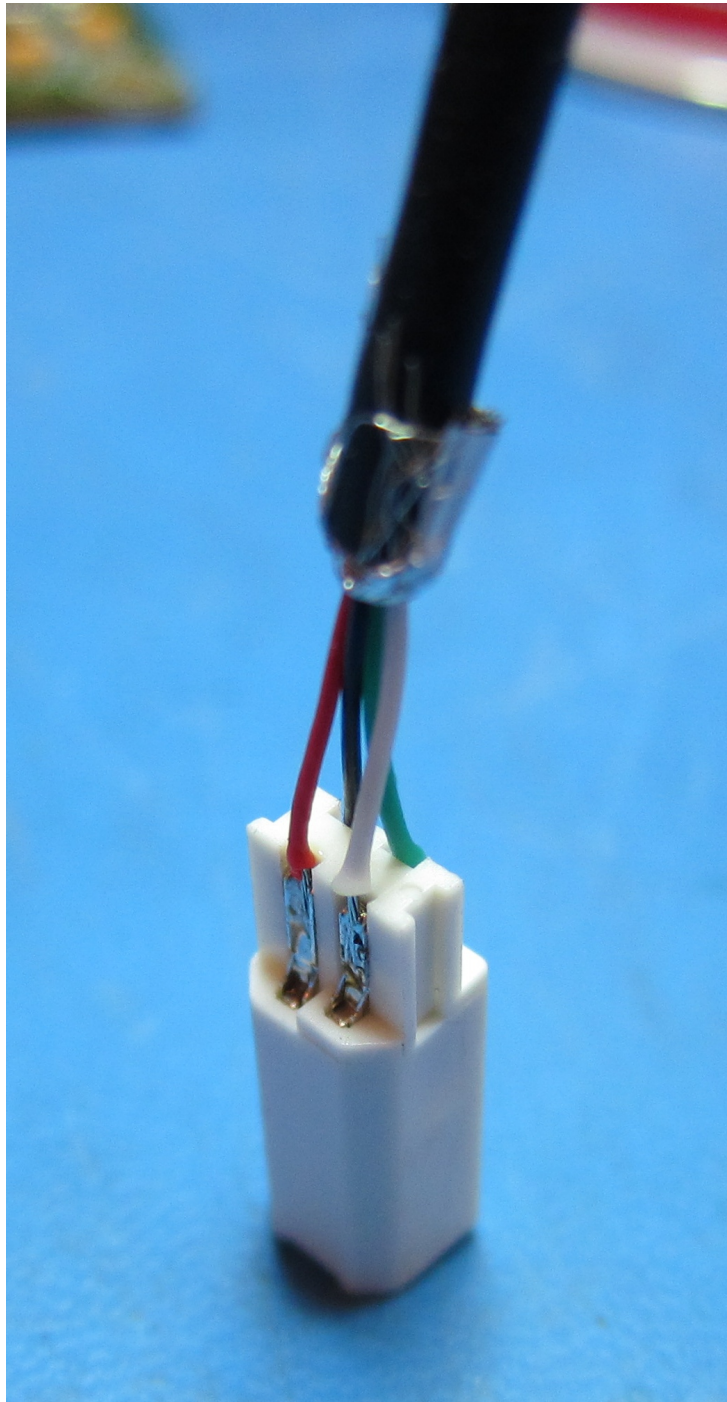

Figure 15: Cable wires soldered to the USB connector block.
14. Solder the wires to the USB connector block (1002-029-02300) as shown in Figure 15.